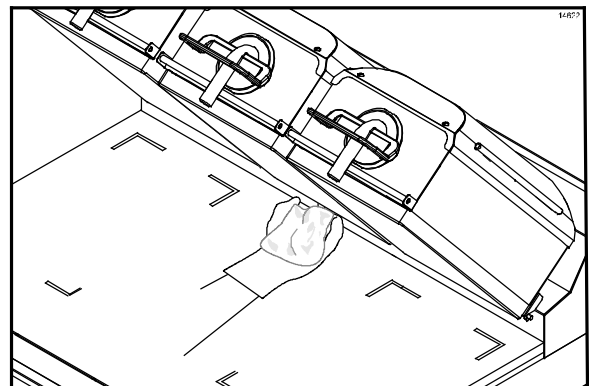

Figure 64
38. Clean the surrounding areas such as the hood, bull nose, and back splash, with a clean, sanitizer-soaked grill cloth. (See Figure 64.)